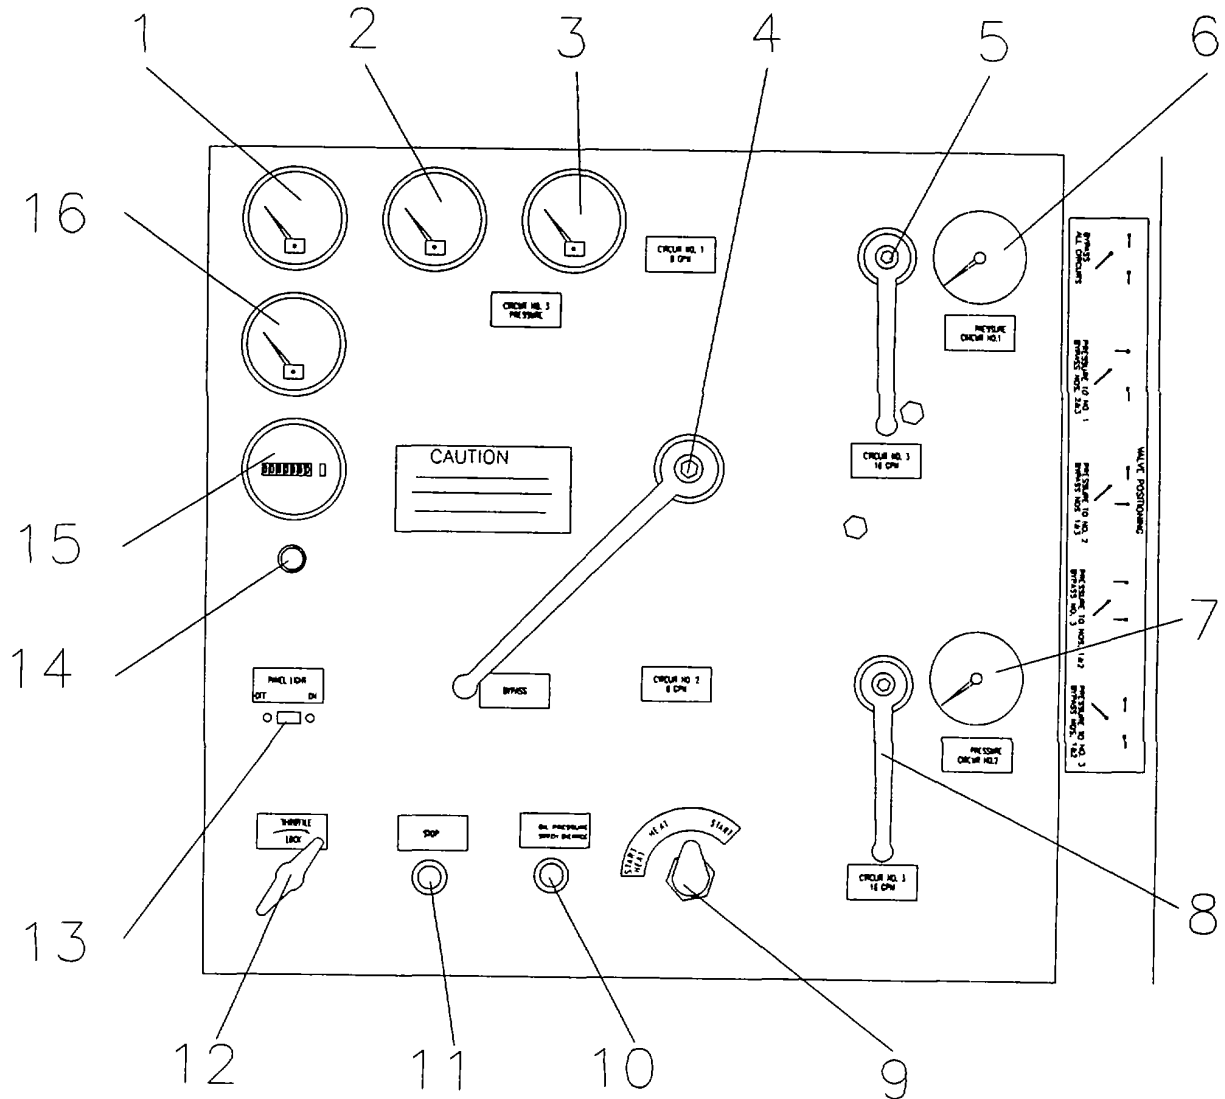
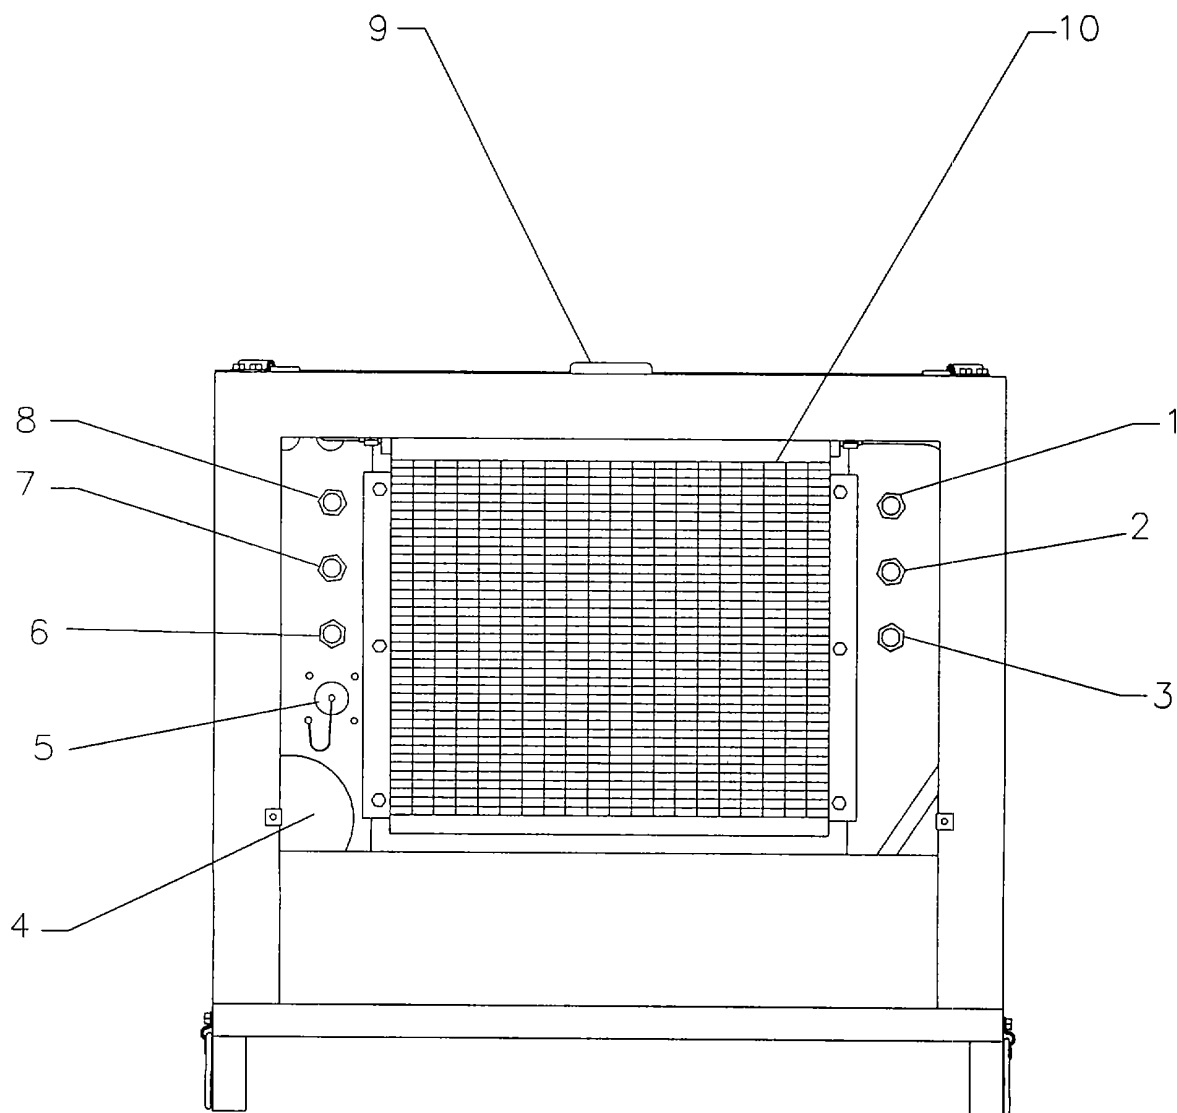

Figure 2-1. Control Panel. (Start Up Position).
Figure 2-2. Hydraulic Power Supply Connections.
2.1.1. Control Panel. (Figure 2-1).
- 5 HYDRAULIC SELECTOR VALVE. When this valve handle is pointed to the CIRCUIT NO 1, 8 GPM position the output of one of the two pumps is directed to the quick disconnect fitting PRESSURE PORT 8 GPM CIRCUIT NO. 1. In the other position 16 GPM CIRCUIT NO 3, the output of this pump is directed to the quick disconnect PRESSURE PORT 16 GPM CIRCUIT NO. 3 and to the two position hydraulic selector valve (4).
- 8 HYDRAULIC SELECTOR VALVE. This two position hydraulic selector valve is identical in function to valve (5) except that it controls the second hydraulic pump in the system. When this two position valve handle is pointed to the CIRCUIT NO. 2, 8 GPM position the output of one of the two pumps is directed to the quick disconnect fitting PRESSURE PORT 8 GPM CIRCUIT NO 2. In the other position CIRCUIT NO 3, 16 GPM, the output of this pump is directed to the quick disconnect PRESSURE PORT 16 GPM CIRCUIT NO. 3 and to the two position hydraulic selector valve (4).
2.1.2. Hydraulic Power Supply Connections. (Figure 2-2).
- b. Place hydraulic selector valves in the positions shown in figure 2-1. Numbers in parenthesis refer to figure numbers. Position selector valve handles (5 and 8) pointing to the "CIRCUIT NO 3, 16 GPM" position and selector valve handle (4) pointing to "BYPASS".
- c. Refer to figure 2-1. Rotate starter switch (9) to the HEAT position and hold it there for 15 to 20 seconds. Depress the pushbutton (10) "OIL PRESSURE OVERRIDE SWITCH" and keep it depressed while rotating switch (9) clockwise to the START position. If the engine does not start in 30 seconds or less, release the starter switch and wait for the engine to stop rotating before trying to start again.
- d. When the engine starts, look at the oil pressure gauge (2) to make sure that there is oil pressure and the ammeter (16) to verify that the alternator is charging. Allow the engine to warm up for approximately 5 minutes. Increase the engine speed by pulling the "THROTTLE" (12). Turn the throttle clockwise to lock it in position.
A slave receptacle is provided on the hydraulic power supply as illustrated in figure 2-2, item (5). This connection may be used for connecting to an external 24 volt DC source for jump starting or to utilize the output of the power supply alternator to power external 24 volt devices such as lighting.
Refer to figure 2-2. Connect the hoses from the units to be supplied to the hydraulic power supply. Use PRESSURE PORT 8 GPM CIRCUIT NO. 1 (8) with RETURN PORT 8 GPM CIRCUIT NO 1 (1) for one unit and PRESSURE PORT 8 GPM CIRCUIT NO. 2 (6) with RETURN PORT CIRCUIT NO 2 (3) for the other driven unit.
a. Refer to figure 2-2. Connect the hoses from the unit to be driven to the hydraulic power supply using PRESSURE PORT 16 GPM CIRCUIT NO. 3 (7) and RETURN PORT 16 GPM CIRCUIT NO. 3 (2) quick disconnect fittings.